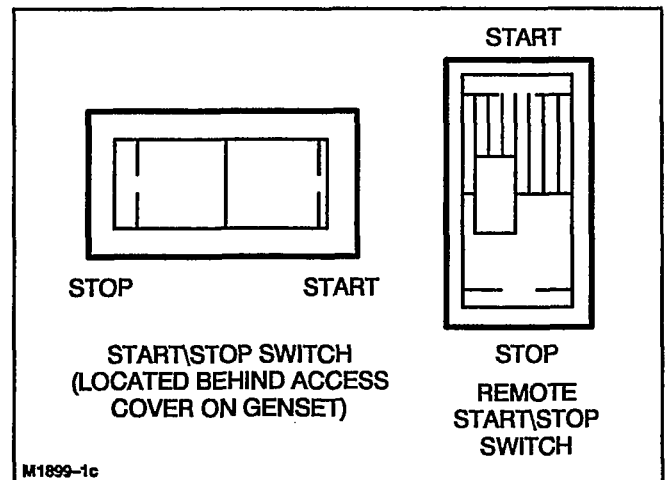

FIGURE 6. START/STOP SWITCH
2. Hold the Start/Stop switch in the START position (Figure 6). Release the switch when the genset starts.